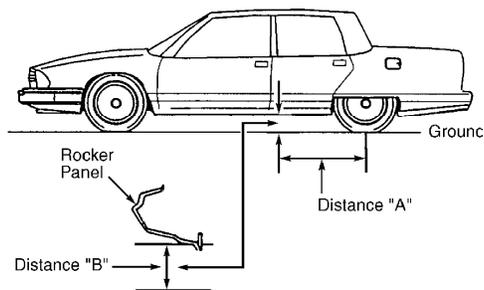

Fig. 2: Measuring Rear Ride Height
2) Turn ignition on to activate ELC system. Bounce rear of vehicle 3 times to normalize suspension. Measure 23 1/2" (600 mm) from center of rear wheel towards front of vehicle. See Fig. 2. Measure trim/rear ride height from this point.
rear wheelwell opening. See Fig. 2.